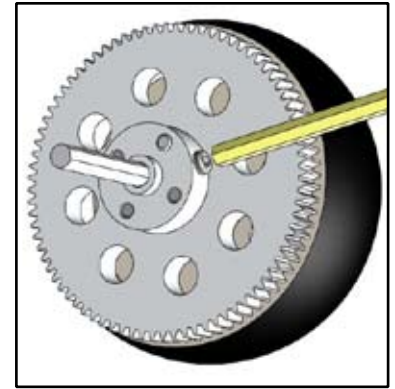

Figure A8
5) Slide an axle about 1/4" in the hub and hold it while tightening the screw using the 3/32" hex key (Figure A8). Be sure to tighten it against the flat side of the axle. Do not overtighten.